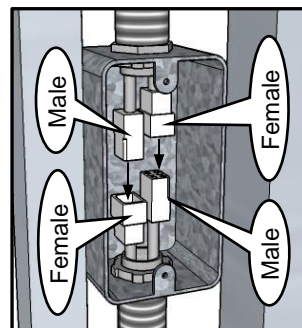
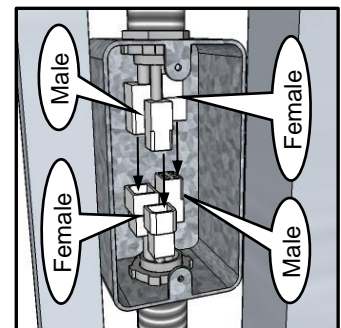

Figure 21
Figure 22
- 3** On 3-stop dumbwaiters, the wires dropping down will have a male and female connector as will the junction box. Make sure the male and female from above plug into the male and female from below. (for 3-stops see Figure 21) (for 4-stops see Figure 22)